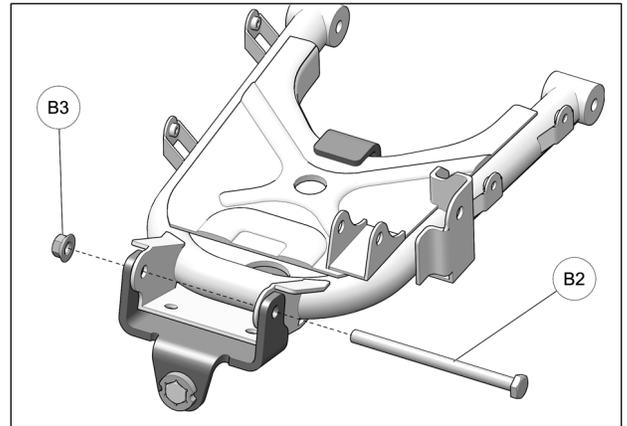

Fig. 8
8. Insert the new M10x140mm bolt (B2) through anchor bracket, suspension arm and wheel knuckle. Secure assembly with the provided M10 nut (B3). Torque nut to 50 N•m [37 lb•ft]. See Fig. 8